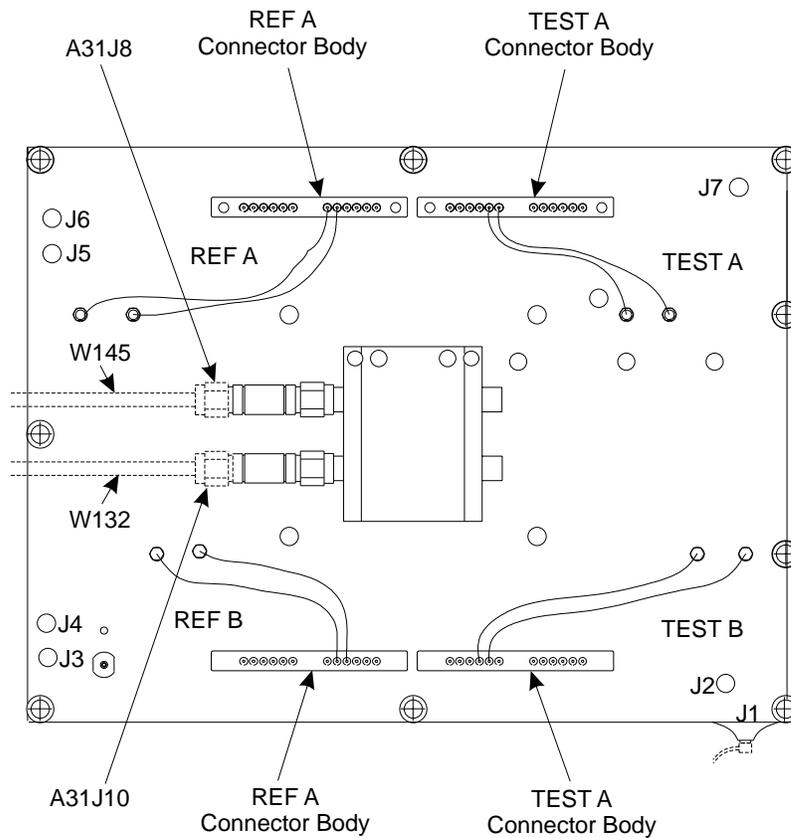

Figure 8-13. A31 Buffer Amplifier Assembly, Details
- Step 1. Disconnect the semi-rigid coaxial lines, W83 and W84, from the 20 dB pads that are part of the Buffer Amplifier assembly; see Figure 8-13. (For units with Option 11, the semi-rigid coaxial lines are W46 and W47.) (Wxx numbers are affixed to semi-rigid cables.)
- Step 3. Disconnect the two cable connectors from the TEST A connector body on the Buffer Amplifier assembly (see Figure 8-13). Similarly, disconnect the two cable connectors from the REF A connector body.